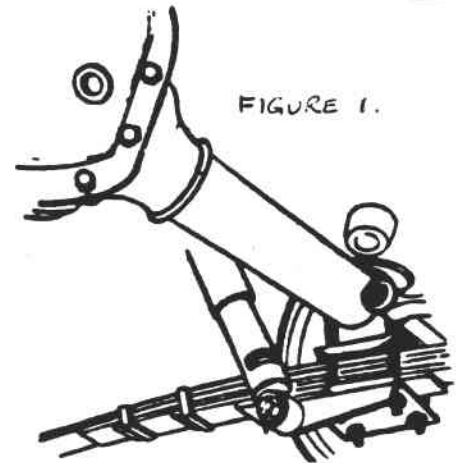

FIGURE 1.
4. Re-install each lower shock bracket on the opposite side of the car, and tighten the U-bolt nuts. The brackets are re-installed the same way round, but now the hole for attaching the shock is below the spring, as shown in figure 1, instead of at the side of the spring.